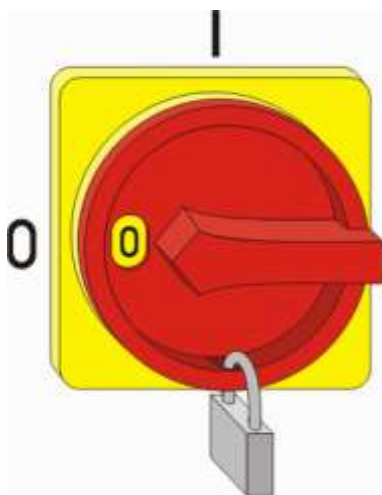

Fig.45: Lock the main switch
2. Lock the switch in the off position to prevent restart (Fig. 45).